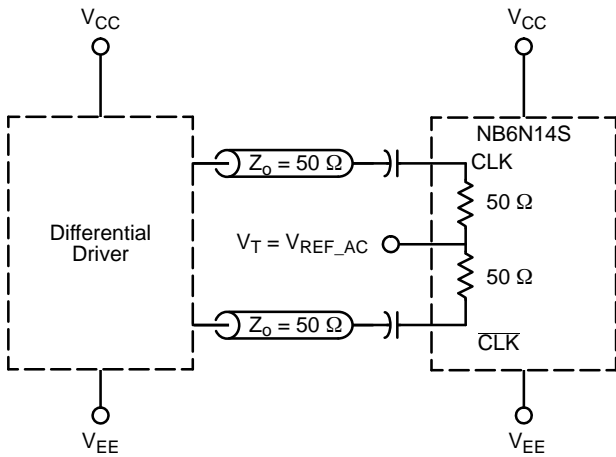

Figure 14. Capacitor-Coupled Differential Interface (V_T Connected to V_{REF_AC})
DIFFERENTIAL INPUTS DRIVEN SINGLE-ENDED (Figures 14, 15, 19, and 21)
- V_{REF_AC} used to rebias capacitor-coupled inputs only (see Figures 14 and 15).